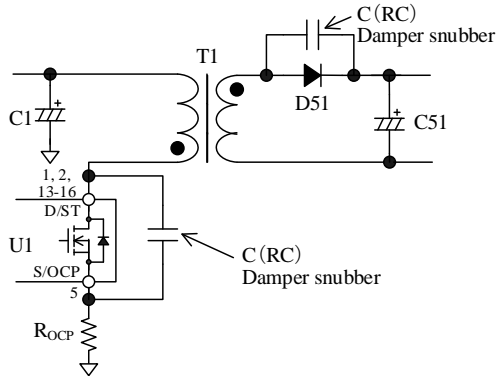

Figure 11-17. Damper Snubber
In addition, if a C (RC) damper snubber of Figure 11-17 is used, reduce the capacitor value of damper snubber.